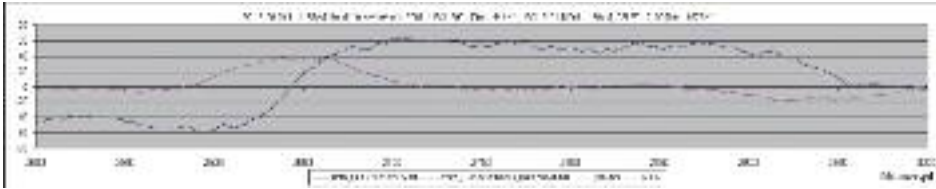

Figure 17: Rate of Cant Deficiency exceeding the nominal 30mm/sec criteria.
- **049 Channel Generation** The Network Rail track Design handbook (known as 049) specifies various criteria to which curves must comply. As users adjust installed cant or line speed to reduce damage, the Track-Ex 049 function will generate design criteria channels. Figure 17 shows an exception to the nominal 30mm/sec criteria. Such exceptions can be tabulated by Track-Ex using the “Exception Report” function.